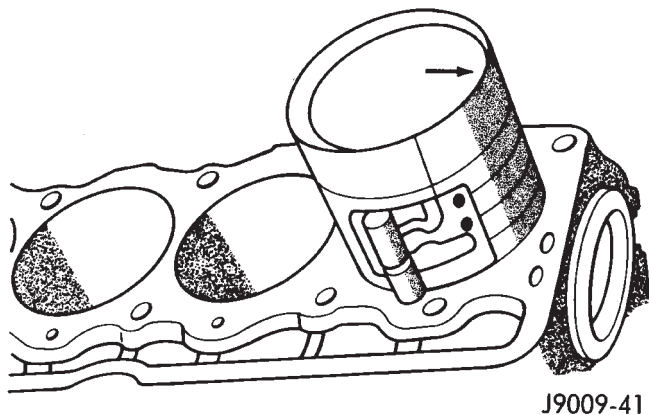

Fig. 25 Rod and Piston Assembly Installation
(3) Use a piston ring compressor to install the connecting rod and piston assemblies through the top of the cylinder bores (Fig. 25).
(4) Ensure the arrow on the piston top points to the front of the engine (Fig. 25).